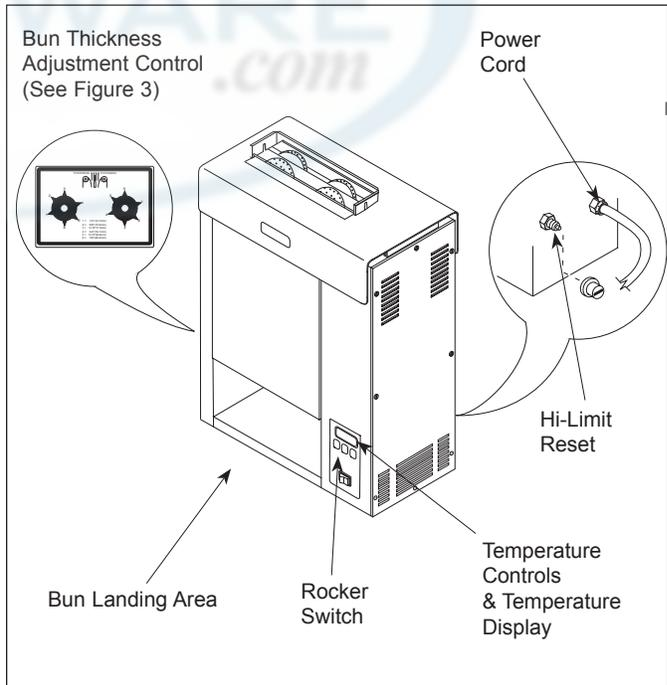

Figure 2. VCT-2000 Toaster
2. Turn the Rocker Switch (power On/Off) to ON. (Figure 2). Allow the toaster to warm-up for 30 minutes before proceeding.
NOTE: The temperature display (Figure 2) will flash “LO” until the toaster reaches its preset operating temperature. When the toaster approaches the preset temperature of 600°F (315°C), “USE” appears in the temperature display and the unit is ready to toast buns. If “USE” does not appear in the window after warm-up period of approximately 30 minutes, contact your Authorized Service Agency.
3. Drop Crowns and Heels into the slot (Figure 2). **Cut sides of heel and crown must face each other.**
4. Toasted buns will drop into the bun landing area (Figure 2) in approximately 10 seconds.
A Hi-Limit Control turns off electrical power to the heater and control circuits if the unit overheats. To reset the control, allow sufficient time (10-15 minutes) for the unit to cool, then locate the Reset Button at the rear of the unit. Remove the black protective cap, press the Reset Button, and reinstall the protective cap (Figure 2).